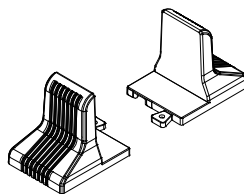

Figure 2-1 Support bases
Step 1: Take out the support bases from the accessories. Their appearances are shown in Figure 2-1.